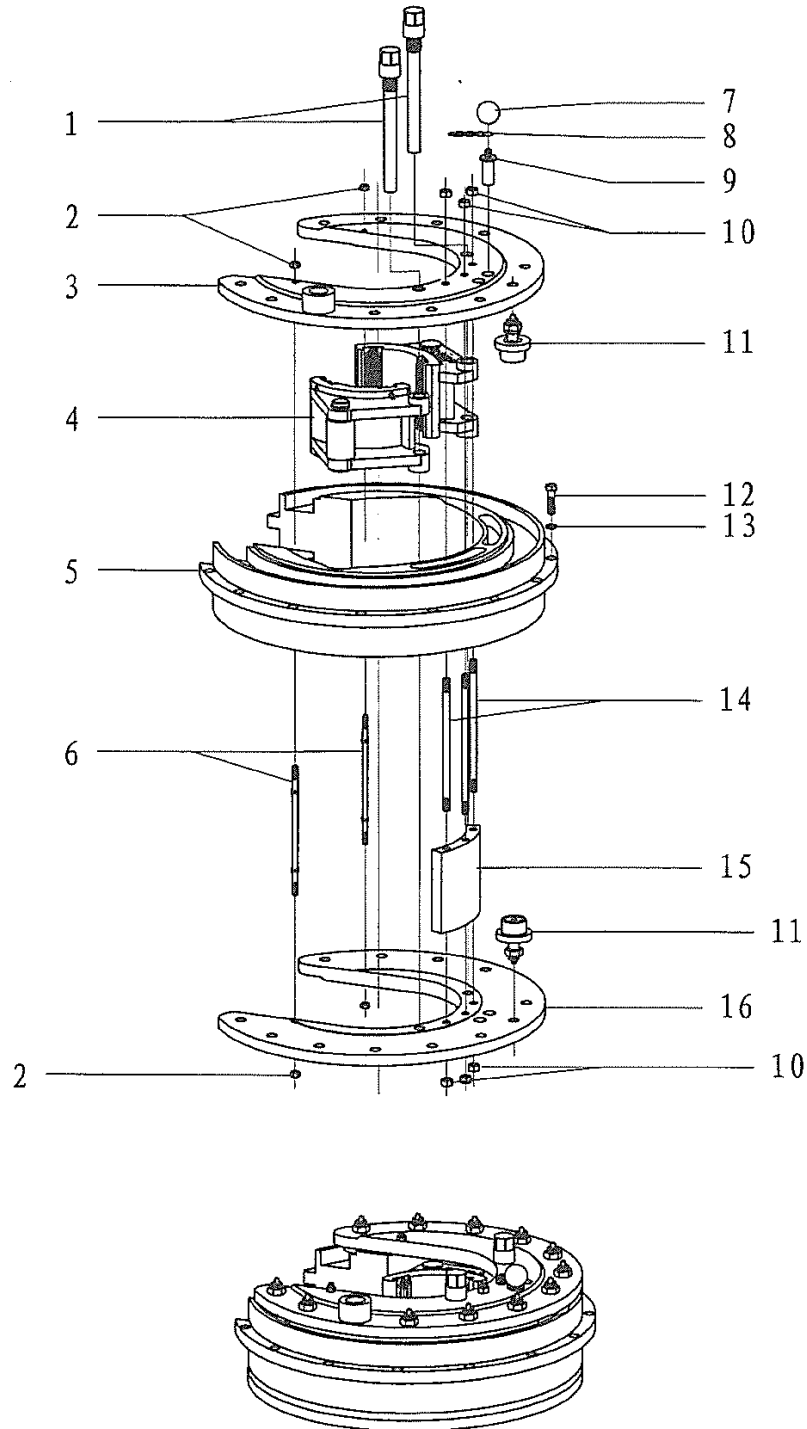

Fig22.
8.11 Backup tong head (Fig22. Table22)